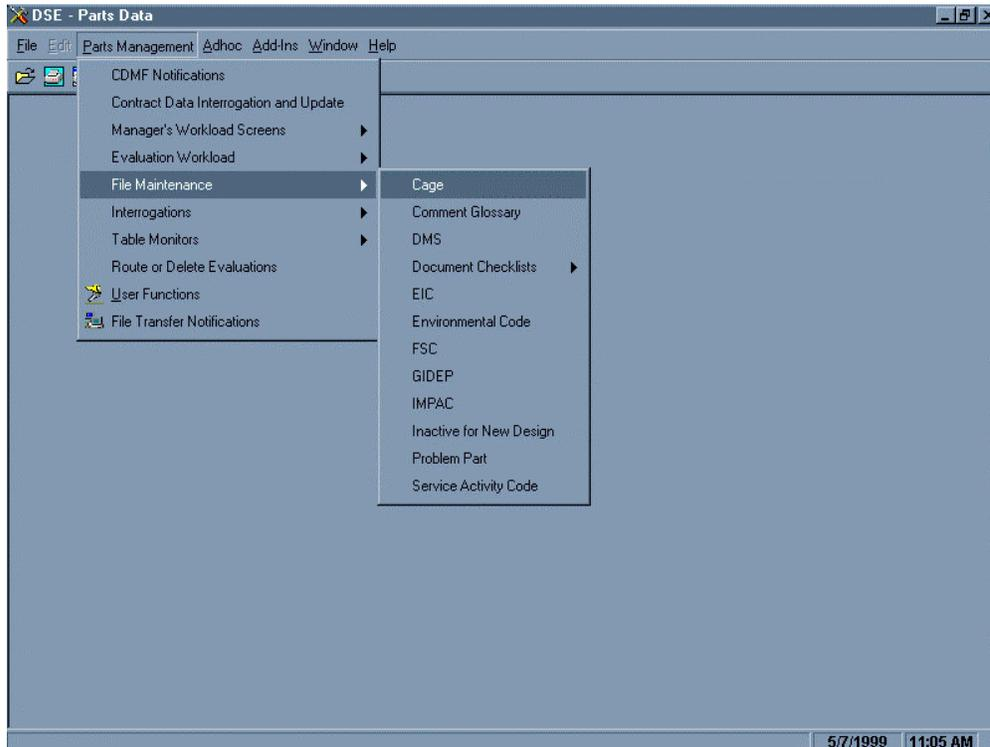

Figure 4.9a
a. The following files are available for maintenance. Select File Maintenance from the Parts Management pull-down menu. See Figure 4.9a. The file maintenance menu will be displayed with the following selections available:
d. Figures 4.9a through 4.9.13c are screen/window displays for maintenance processing.